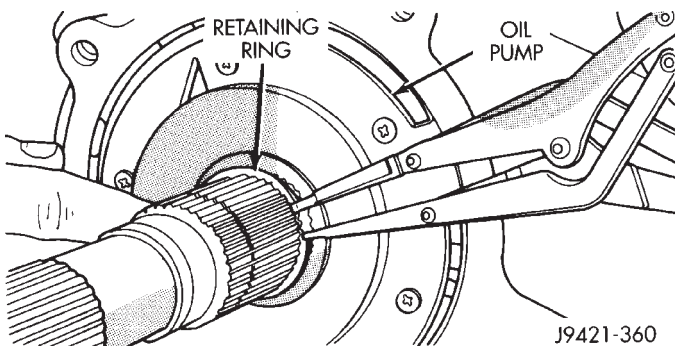

Fig. 100 Oil Pump Retaining Ring Installation
(10) Install oil pump retaining ring on mainshaft (Fig. 100).